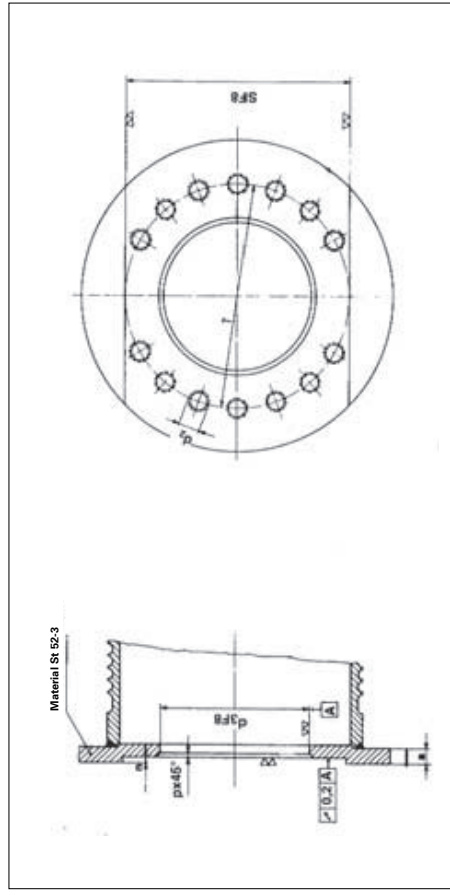

Fig. 13 Coupling side flange for cable drum.
- Axial setting: Checks the distance "X" according to Fig. 13. If this distance is greater than 10 % of that shown in Table 4, the position of seating of the support-bearing must be reset.